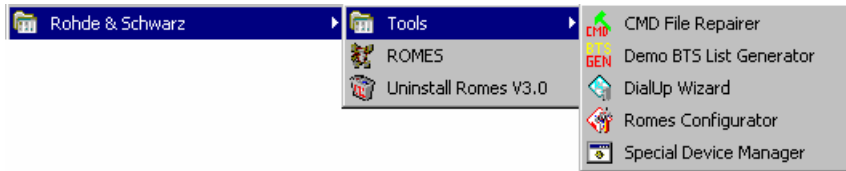

Fig. 8-1 ROMES Tools
Select *CMD File Repairer* in the *Tools* program subdirectory; see Fig. 8-1 on p. 8.12.
Double-click *BTSListGenerator.EXE* (or select *Demo BTS List Generator* in the *Tools* program subdirectory; see Fig. 8-1 on p. 8.12).
- 2. Select *DialUp Wizard* in the *Tools* program subdirectory; see Fig. 8-1 on p. 8.12.
2. Select *ROMES Configurator* in the *Tools* program subdirectory; see Fig. 8-1 on p. 8.12.